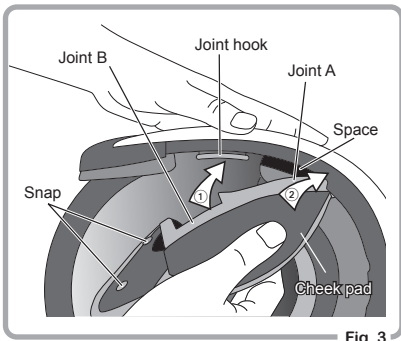

Fig. 3
- ① Insert the rear Joint A in-between the shell and the liner.
- ② Hook the Joint B on the joint hook as shown in Fig.3.